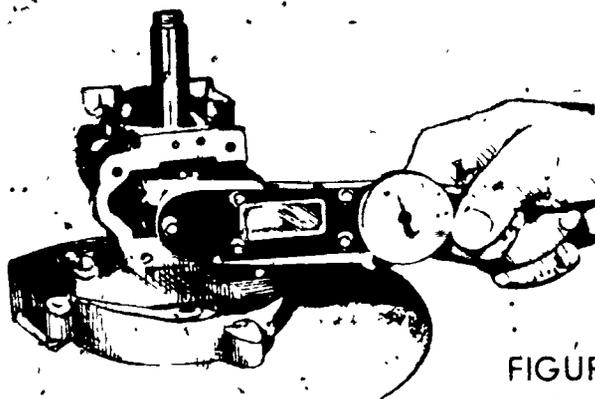

FIGURE 4
J. Torque rod capscrews to correct torque (Figure 4)